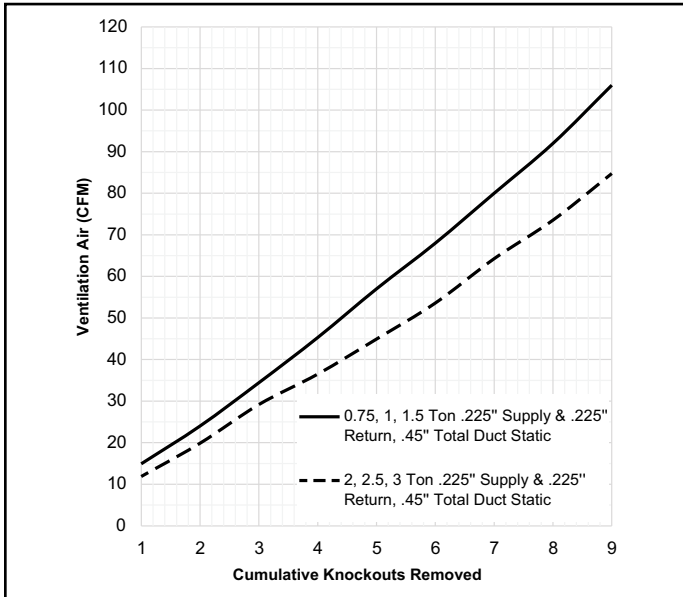

Figure 1.
**IMPORTANT:** The quantity and conditions of outdoor ventilation air being introduced must be accounted for in the load calculations for the unit installation. See Figure 1.